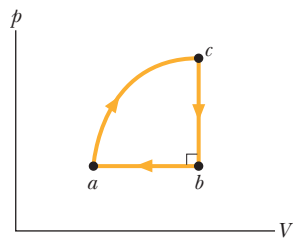

Figure 18-54 Problem 75.
**75** Figure 18-54 displays a closed cycle for a gas. From  $c$  to  $b$ ,  $40 \text{ J}$  is transferred from the gas as heat. From  $b$  to  $a$ ,  $130 \text{ J}$  is transferred from the gas as heat, and the magnitude of the work done by the gas is  $80 \text{ J}$ . From  $a$  to  $c$ ,  $400 \text{ J}$  is transferred to the gas as heat. What is the work done by the gas from  $a$  to  $c$ ? (*Hint:* You need to supply the plus and minus signs for the given data.)